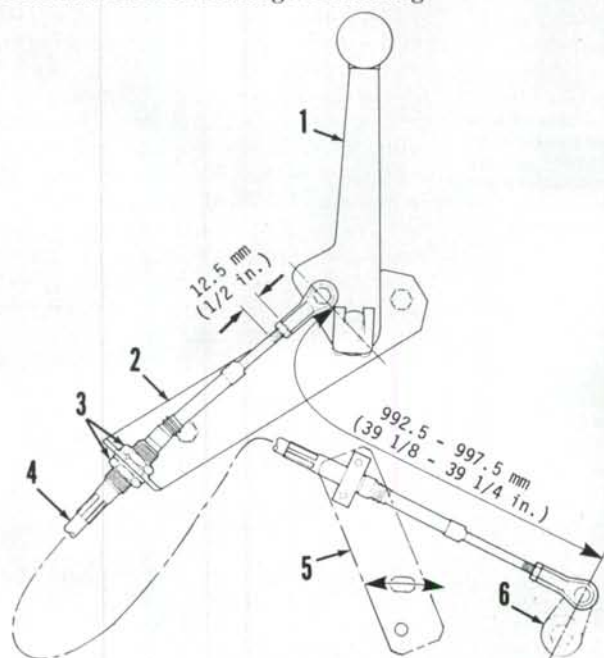

Fig. 256—View of draft control lever adjustment points on Model 1594.
321. DRAFT SENSING LEVER ADJUSTMENT. Draft control lever adjustment can only be done accurately with control cable removed. Adjust ball joint at control lever end to 12.5 mm (½ inch) dimension as shown in Fig. 256. Adjust ball joint at other end of cable so overall length of cable is 992.5-997.5 mm (39½ to 39¼ inches) between centers of ball joints. Install cable assembly in cable brackets. Threads of cable housing should be centered in upper bracket (2).